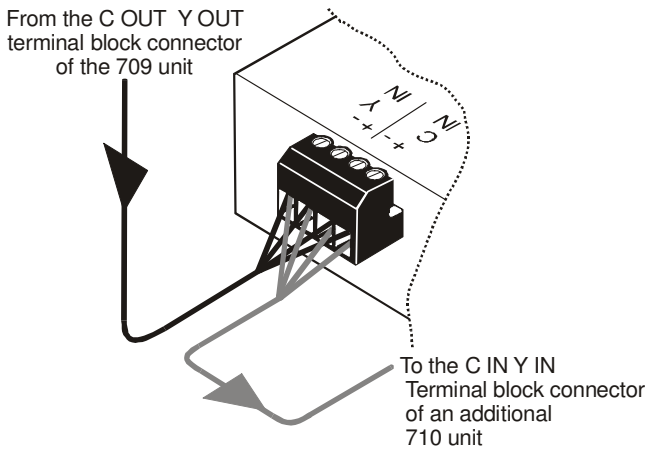

Figure 7: Connecting an Additional 710 Unit
6. If required, connect the C IN Y IN terminal block connector of the **710** to the C IN Y IN terminal block connector2 of an additional **710** (as illustrated in Figure 7).
8. If required, connect the LINE IN terminal block connector of the **710** to the LINE IN terminal block connector4 of an additional **710** (see Figure 7).